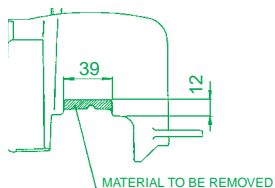

Fig. 1
- Fit the head gasket (9) and the head (7) on the stud bolts fully home on the cylinder.
- Fit cover (modified as shown in Fig. 1) on the cylinder, the air conveyor, and the new spark plug (see section “Important notes”).